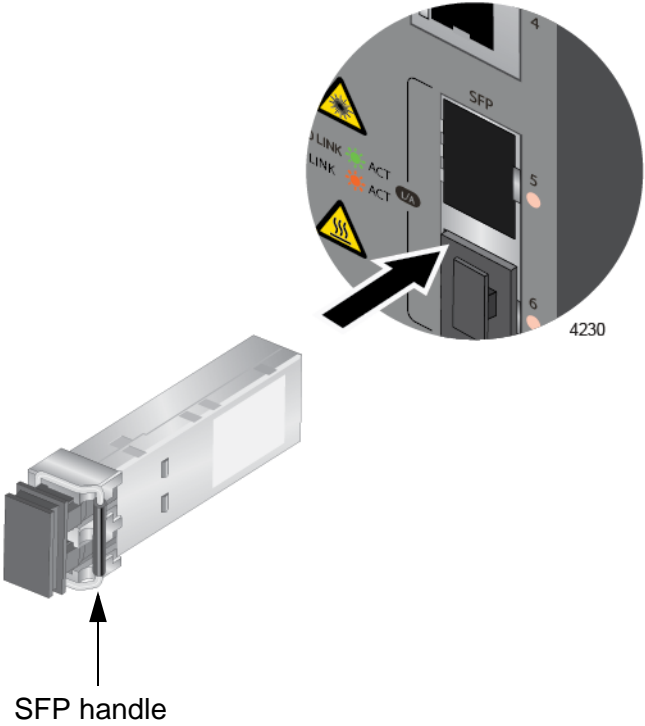

Figure 26. Installing an SFP Transceiver
- 3. Position the transceiver with its handle on the right and slide it into the slot until it clicks into place. Refer to Figure 26.